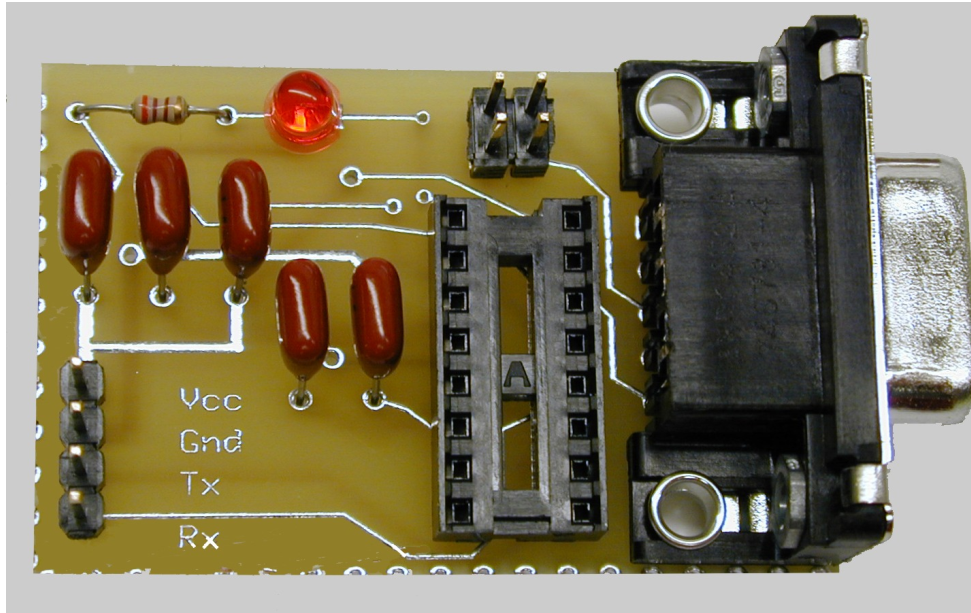

Figure 3. Assembled circuit board before U1 (MAX232) is inserted
4. Mount capacitors C1-C5. Observe polarity requirements if the capacitors are polarized. The capacitors shown in Figure 3 are metal film and are not polarized.